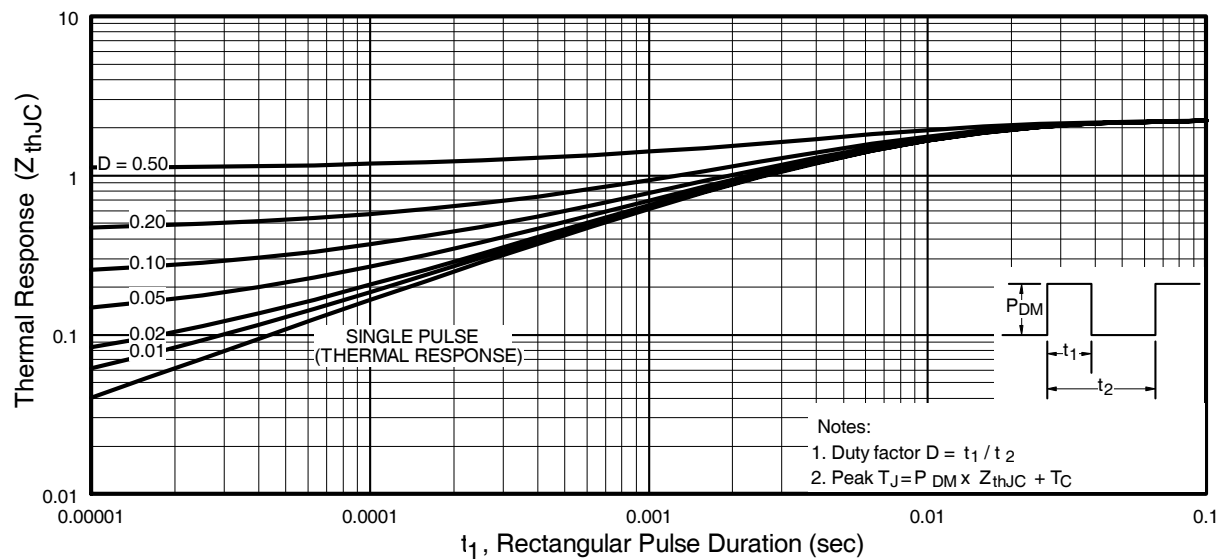

Fig 11. Maximum Effective Transient Thermal Impedance, Junction-to-Case
- ① Repetitive rating; pulse width limited by max. junction temperature. (See fig. 11)
- ② $V_{DD} = 25V$, starting $T_J = 25^\circ\text{C}$, $L = 610\mu H$